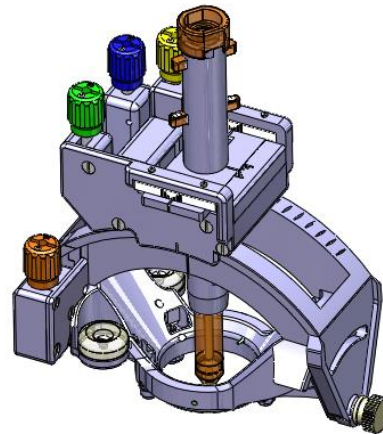

Figure 5b
**Caution:** Avoid applying pressure to the Tower Thumb Wheels while grasping the Tower. **See Figure 5b.**